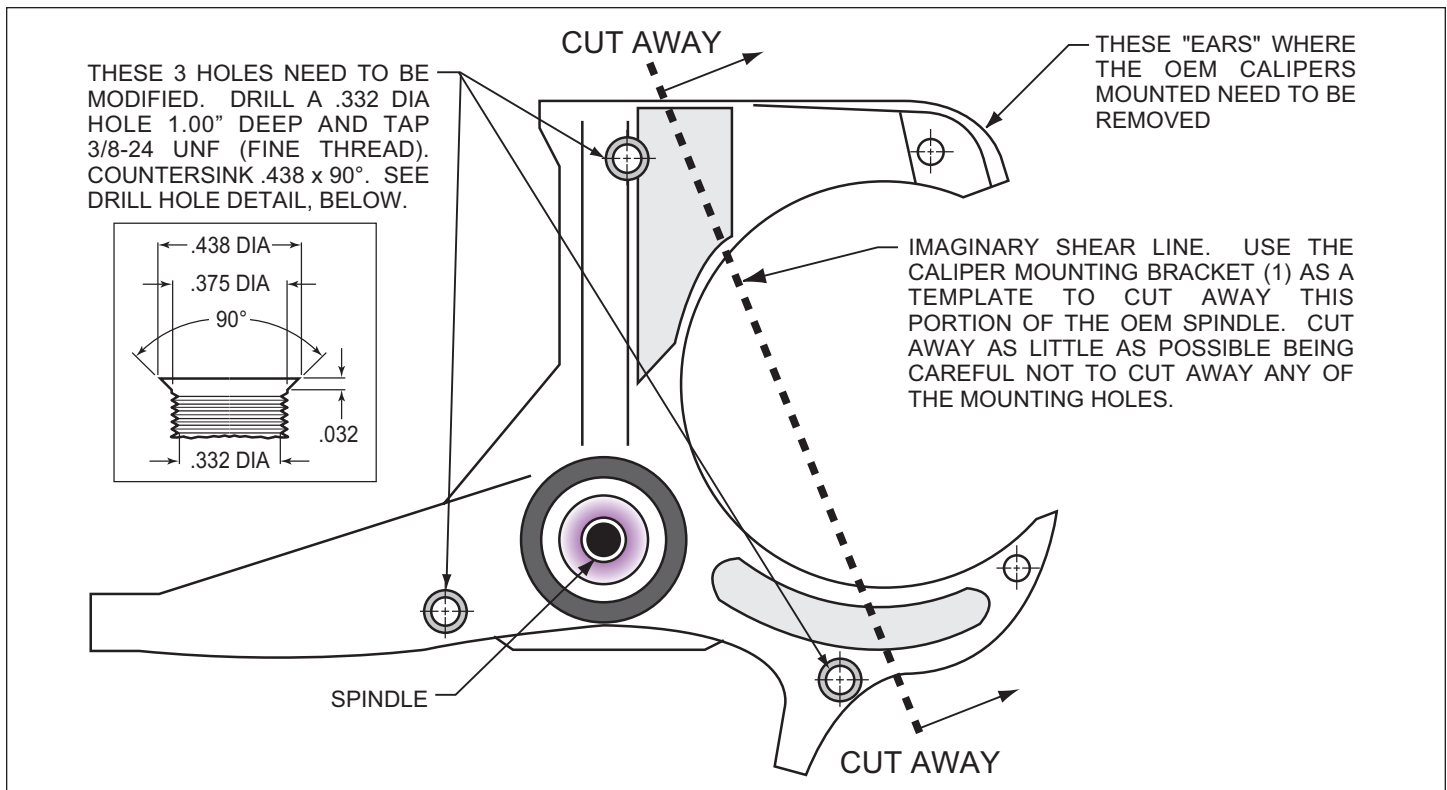

Figure 1. Steering Arm / Spindle Modifications
These modifications should be performed by a qualified machinist. Refer to Figure 1 on the following page as necessary (numbers in parenthesis refer to the parts list on page three). Only one view of the steering arm/spindle is shown, but the modifications need to be performed on both steering arm/spindles.
- Mount the adapter/rotor assembly (10/11) to the hub (7) using bolts (13) (finger tight), as shown in Figure 1. Using an alternating sequence, remove bolts one at a time, apply red *Loctite*® 271 to the threads, and torque to 55 ft-lb.
- Pack the small outer bearing cone (14) with high temperature disc brake bearing grease. Lightly coat the spindle bearing surfaces with bearing grease. Slide the hub/rotor assembly (7 and 11) with outer bearing cone (14) onto the spindle. Secure using spindle washer (15), existing adjusting nut and nut locking device. **NOTE:** *Because of a tolerance variation among spindles, it may be necessary to install a shim washer (16) between the spindle washer (15) and the spindle nut if the spindle nut will not tighten down all the way.* There are four supplied in the kit for your convenience.